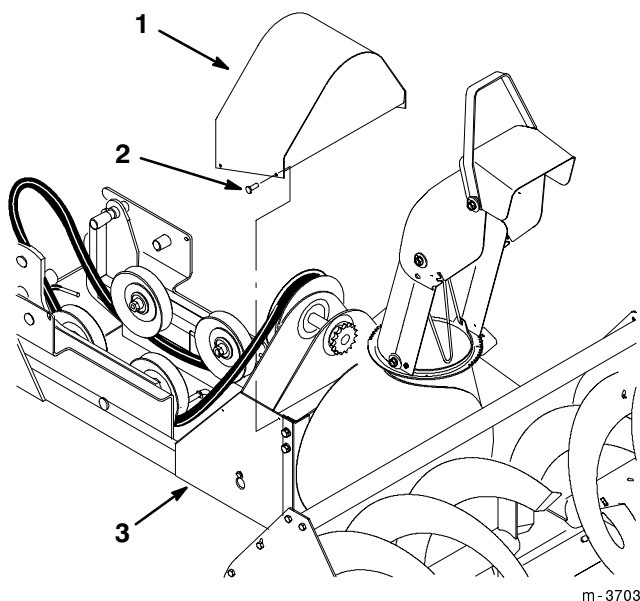

Figure 7
4. Attach the pulley cover to the snowthrower frame assembly with (4) #10 x 1/2" (13 mm) screws (Fig. 7).